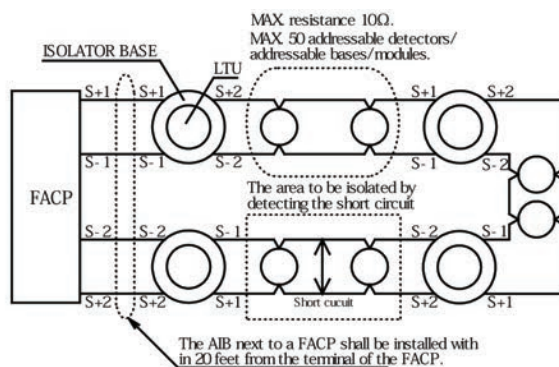

Figure 3: Style 6 SLC Wiring using AIB Base
2. Typical Style 6 arrangement which two separate conductors would return to a listed compatible fire alarm control panel (FACP) from the last base is shown in Figure 3. Resistance of wiring connected to the AIB must not exceed 10 ohms. A maximum of 50 addressable detectors and addressable modules can be connected to the one isolated zone. The AIB next to a FACP shall be installed with in 20 feet from the terminal of the FACP.